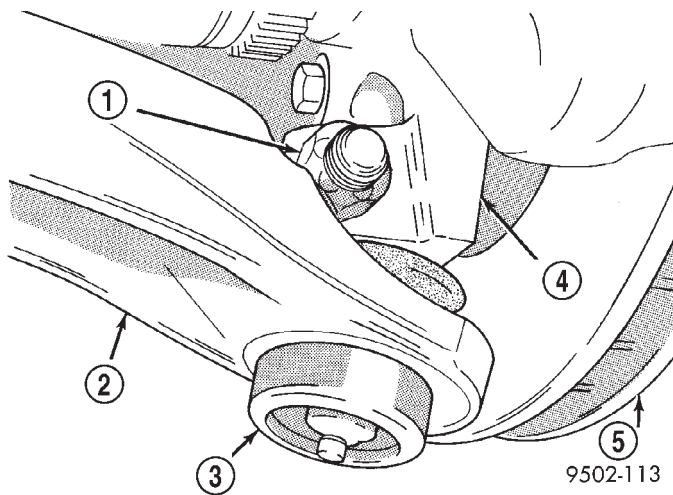

Fig. 10 Control Arm To Steering Knuckle Attachment
(12) Remove the steering knuckle to ball joint stud, clamping nut and bolt (Fig. 10) from the steering knuckle.
(7) Install a **new** steering knuckle to ball joint clamping bolt and nut (Fig. 10). Tighten the clamping bolt and nut to a torque of 135 N·m (100 ft. lbs.).